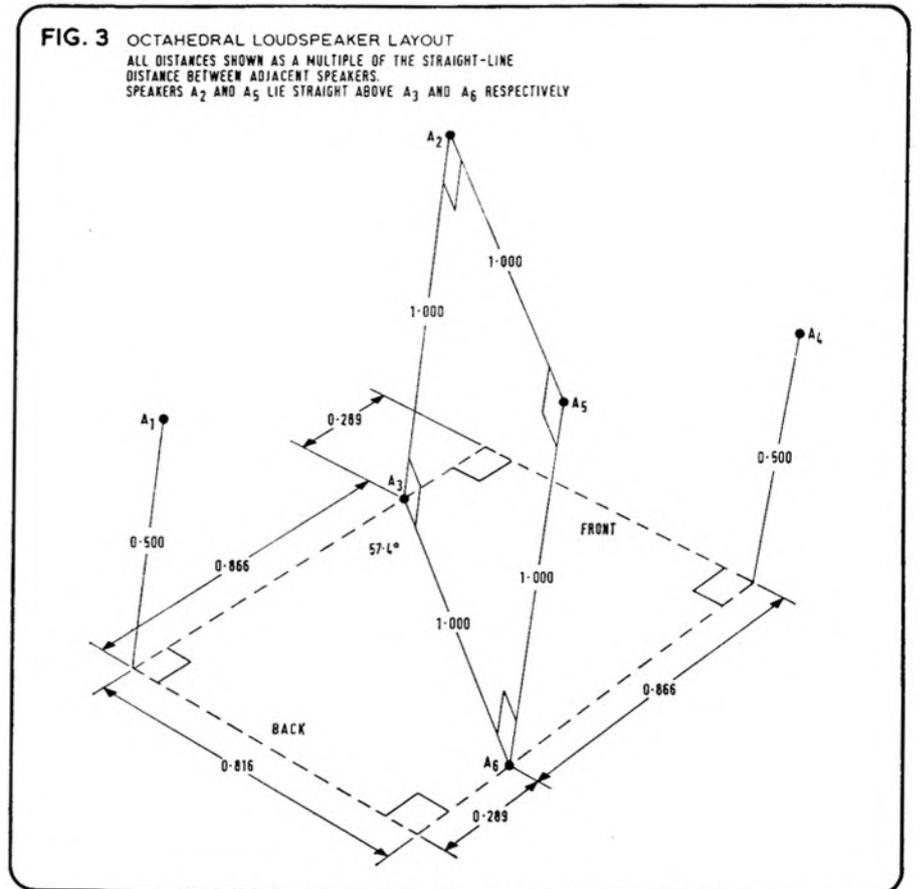

FIG. 3 OCTAHEDRAL LOUDSPEAKER LAYOUT
**TABLE 3** Conversion from the skew tetrahedral system of fig. 1b to the octahedral system of fig. 3.
skew-tetrahedral speaker layout so that all sounds come from a horizontal direction. This also entails throwing out the spurious height information, but the matrixing of Table 4a cannot be used in this case, as it would cause undesirable out-of-phase images because conventional four-channel recordings are not properly 'conditioned' for the requirements of tetrahedral playback. The matrixing of Table 4b is a compromise that may allow conventional four channel recordings to be reproduced tetrahedrally. Table 4c gives a matrixing that may allow a conventional four channel recording to be reproduced over the octahedral layout of fig. 3.